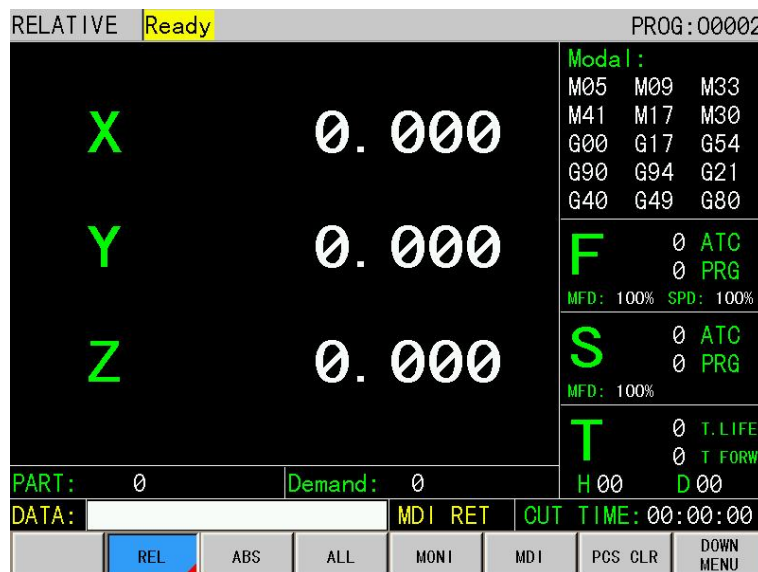

Figure 3-1-1-1
1. Relative mode: Press the (Relative Coordinates) soft key to display the current position of the tool in the current coordinate system, hereinafter referred to as "Relative Coordinates" (See figure 3-1-1-1)